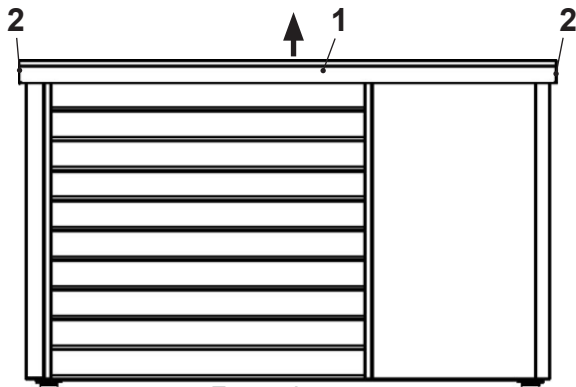

Fig. 25
1. Dismantle cover (1, Fig. 25)
- Remove two screws (2, Fig. 25) each on left and right.